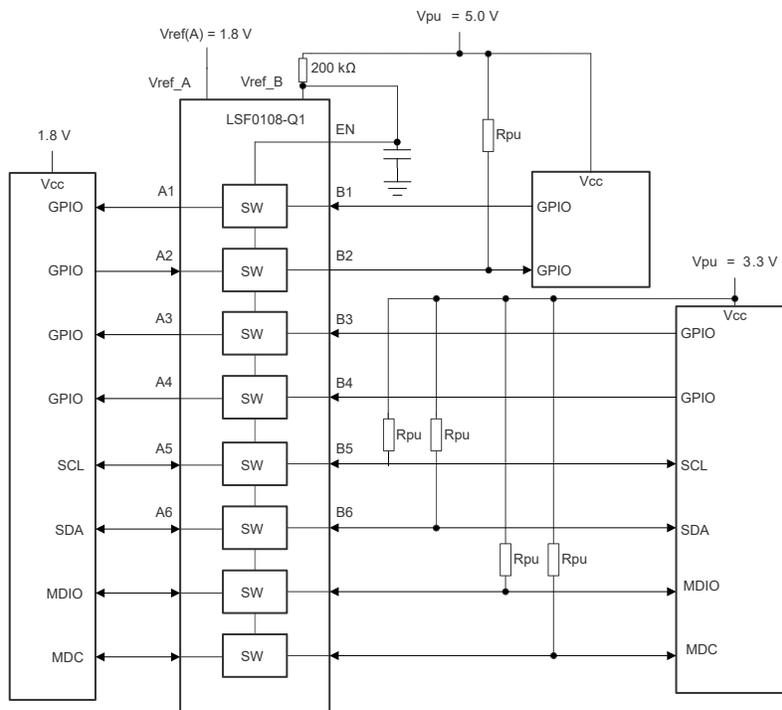

图 9-6. Multi-Voltage Translation with the LSF0108-Q1
The supply voltage ( $V_{pu\#}$ ) for each channel can be individually set with a pull-up resistor. 图 9-6 shows an example of this mixed-mode multi-voltage translation. For additional details on multi-voltage translation, see the Multi-voltage Translation with the LSF Family video.
**Typical Operation ( $V_{ref\_B} > V_{ref\_A} + 0.8\text{ V}$ ):** in this scenario, pullup resistors are not required on the A-side for proper down-translation as is shown for channels 1 and 2 of 图 9-6. The typical operating mode of the device ensures that when down translating from B to A, the A-side I/O ports will clamp at  $V_{ref\_A}$  to provide proper voltage translation. For further explanation of device operation, see the Down Translation with the LSF Family video.